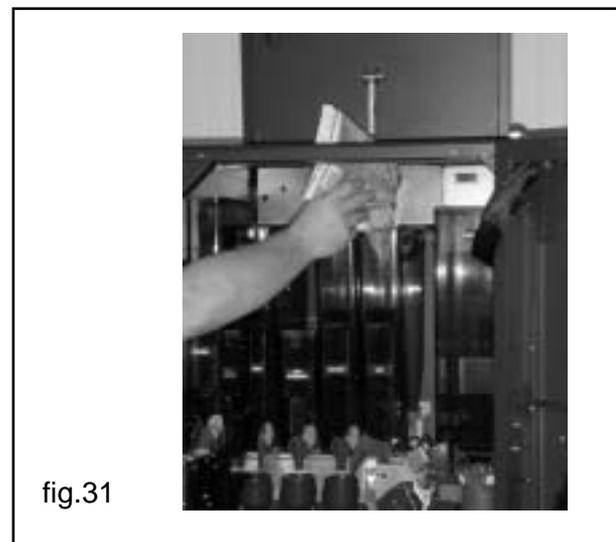

fig.31
- Lift the lid of each container and load the product (fig.31)